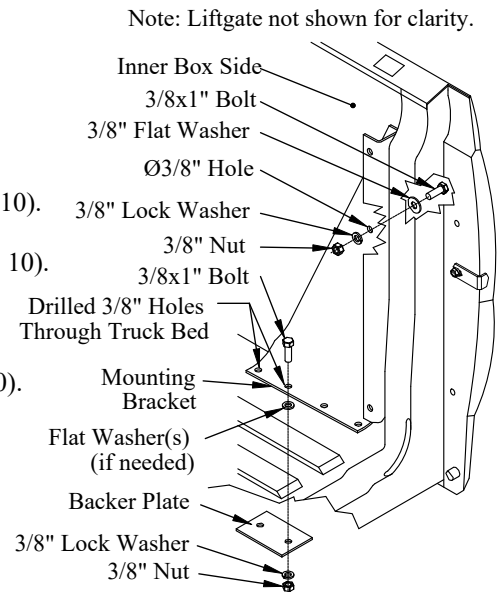

Figure 10: Mounting bracket hardware.
Note: Flat washers **must** be added under bracket to fill any bed to bracket gap (Figure 10).
7. **Drill** two (2) 3/8" holes into the truck bed floor using the two holes (closest to the front of the truck) in the bracket as a guide (Figure 10).
- (2) 3/8"x1" hex head bolts on the top-side (Figure 10).
- (1) backer plate, (2) lock washers, and (2) hex nuts on the under-side (Figure 10).
9. **Drill** a 3/8" hole through the inner box side using the bracket's hole as a guide (Figure 10).
- (1) 3/8" lock washer and (1) 3/8" nut on the bracket-side (Figure 10).
- (1) 3/8"x1" hex head bolt and (1) 3/8" flat washer on the truck-side (Figure 10).